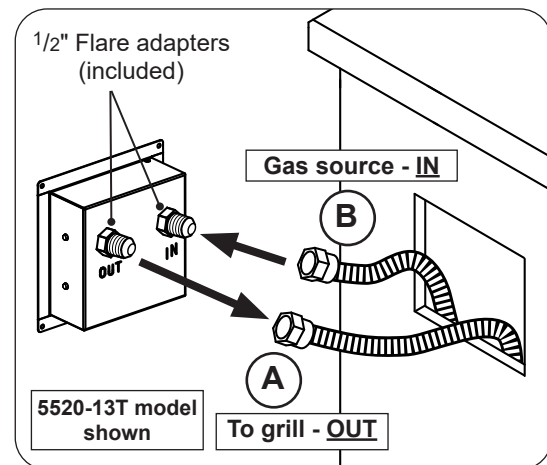

Fig. 2-4 Install timer box
2. Using two wrenches, connect the flex connector coming from the appliance to the $\frac{1}{2}$ " **flare adapter labeled OUT**. See Fig. 2-4, A. Ensure the connection is tightened securely.
3. Using two wrenches, connect a flex connector (not included) to the $\frac{1}{2}$ " **flare adapter labeled IN**. See Fig. 2-4, B. Ensure the connection is tightened securely.